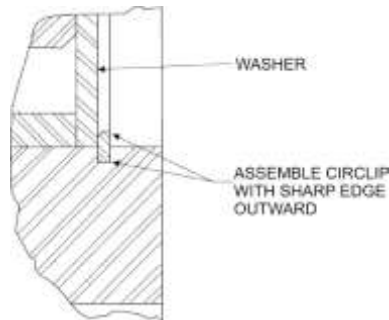
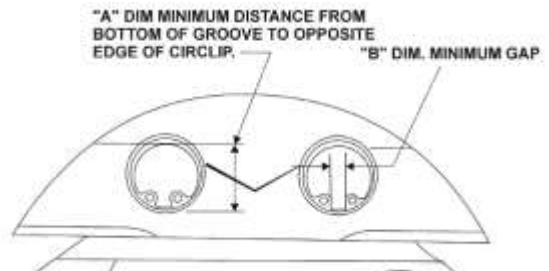

Figure 64
Figure 65
- (6) Install a new counterweight washer in each of the two holes on the counterweight as shown in Figure 64.
- (7) Install a new circlip on one side of each counterweight with the sharp edge outward as shown in Figure 64.
- (8) Use the specified Lycoming gage set identified in the latest revision of Service Instruction No. SI-1535. Make sure the circlips are installed correctly on the counterweight (Figure 64). Figure 65 shows the location of the A and B dimensions. Dimension A is the diameter of the gage. Dimension B is the width of the gage.
- (9) Make sure the circlip seating is correct (Figure 65) as follows: